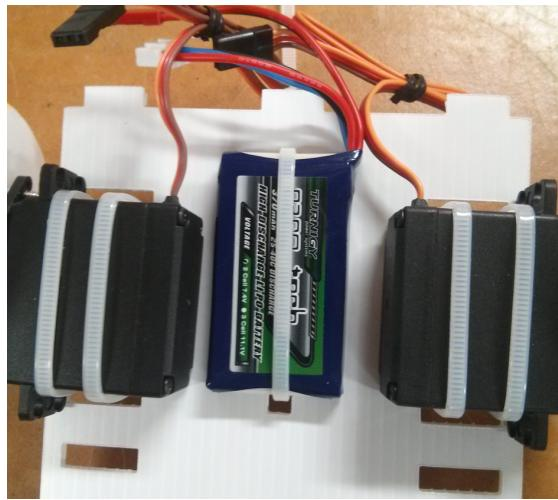

Figure 1-5 Battery mounted to the chassis
4. Mount the battery between the wheels as in Figure 1-5. Again, you can use a cable tie, but double-sided tape or a bit of Blu-Tack works well here, too, if you want to recharge easily. Trim the cable tie excess off as you go or it gets a little hard to mount everything.